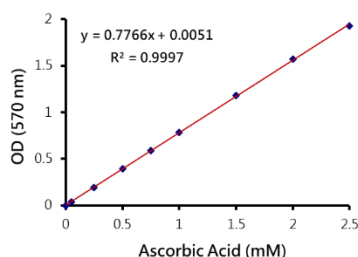

Figure 2. Ascorbic Acid Standard Curve
1. Subtract the absorbance value of the experimental group containing ascorbate oxidase (A+AO) from the value of the group without ascorbate oxidase (A-AO) in [Standard/Blank]. The difference is caused by ascorbic acid. Absorbance (ΔAO), a standard curve was plotted against the mean value of the triplicate ΔAO (Figure 2).